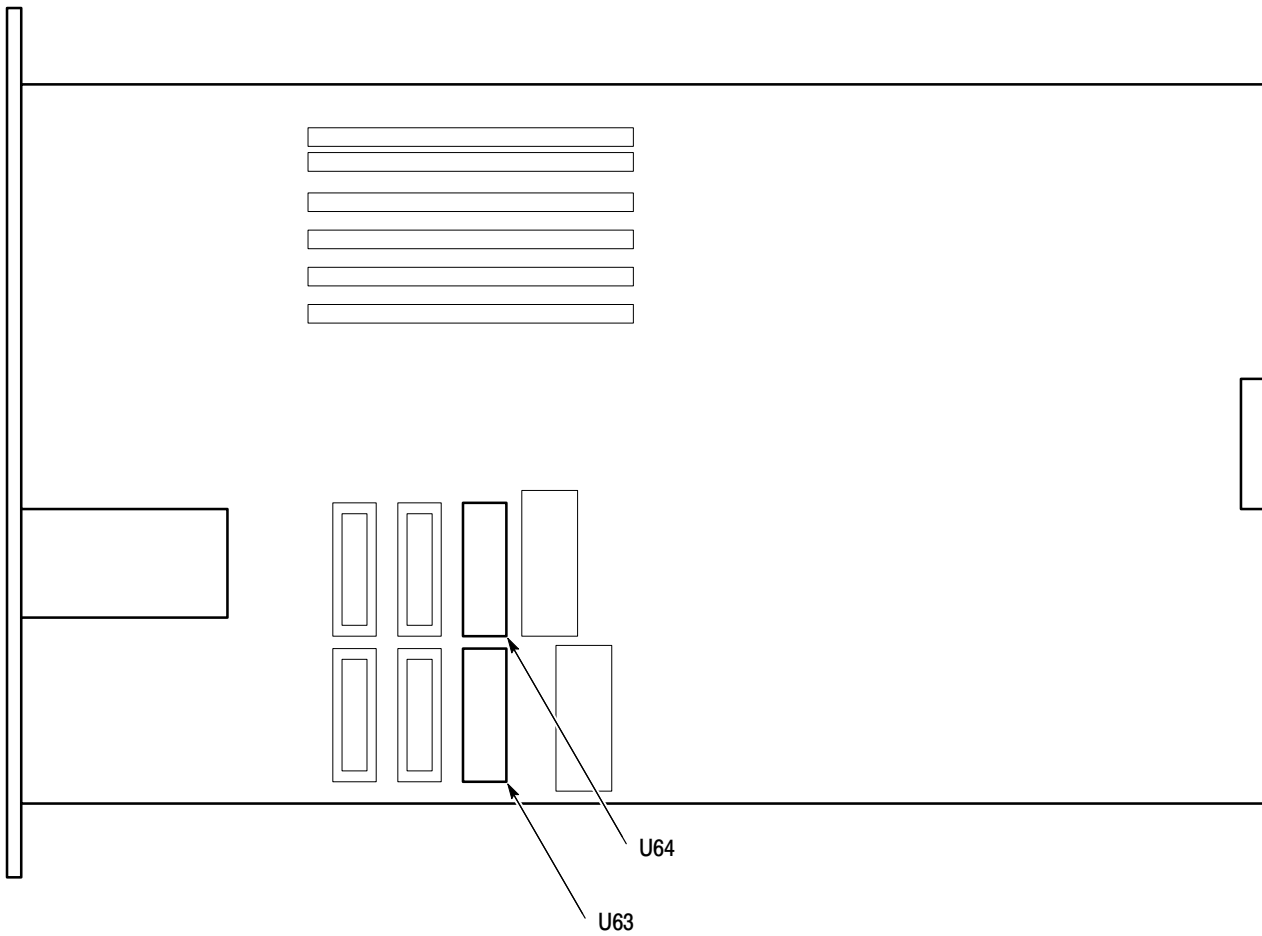

Figure 4: Partial view – CPU circuit board, U63 and U64 EPROM locations
1. Remove U63 and U64 EPROMs from their sockets. Note pin-1 index marks for later reassembly of the new EPROMs. See Figure 4 for component locations.